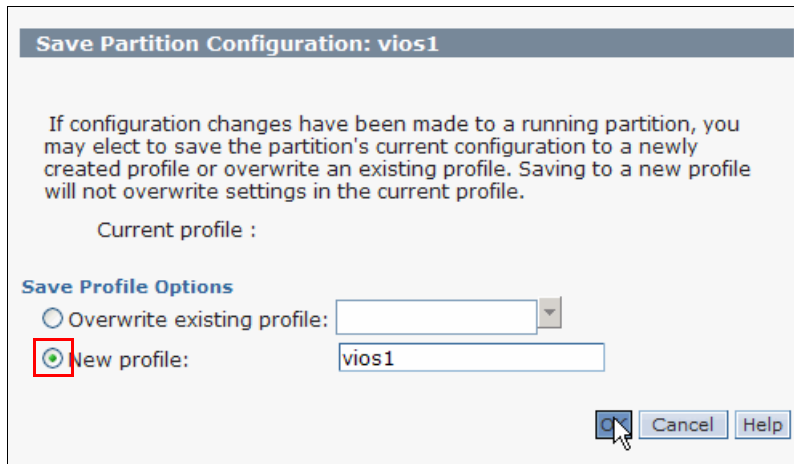

Figure 5-22 Creating a profile with a current configuration
- c. Then, select **New profile** and give the profile a name that you want, then select **OK**, as shown in Figure 5-22. This action creates a profile for the LPAR with current configurations.